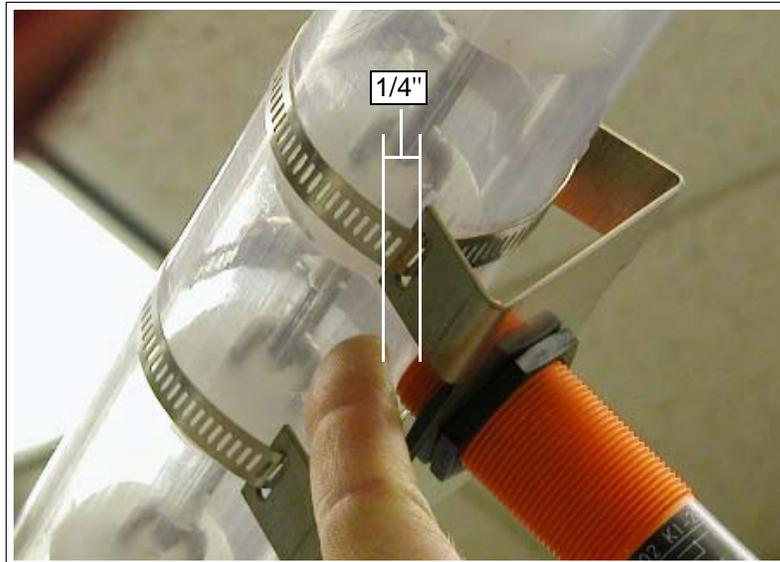
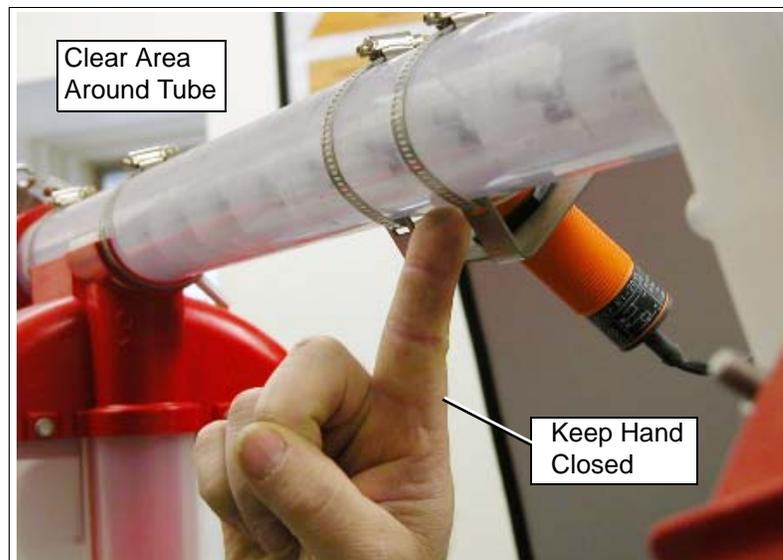

Figure 16F
Figure 16G
**Note:** Make sure that you have your fist closed with only your index finger open. Also, do not touch the tube with your other hand or leave anything laying over the tube to interfere with the sensitivity (See Figure 16F & Figure 16G).